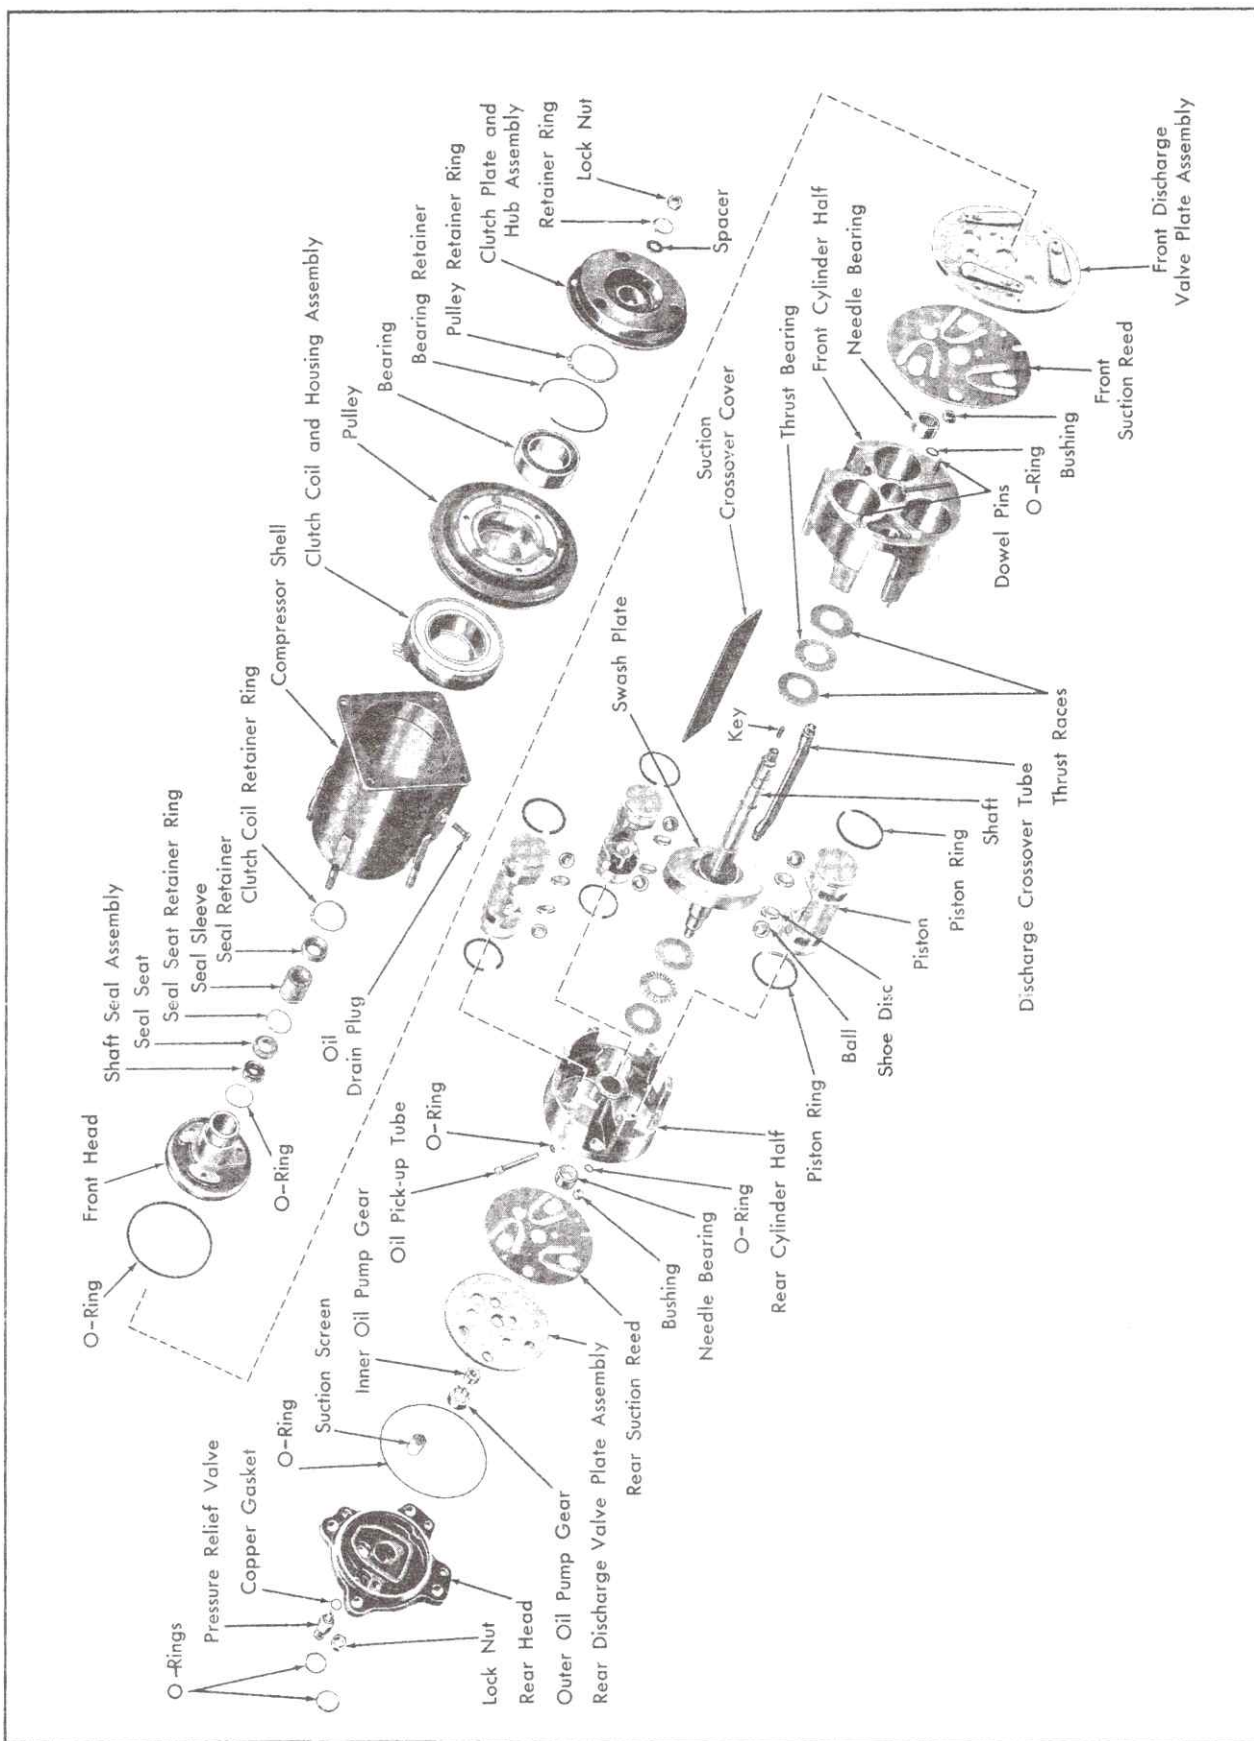

Fig. 1-28 Compressor Disassembled
When servicing the compressor, remove only the necessary components that preliminary diagnosis indicates are in need of service. Refer to Fig. 1-28 for information relative to parts nomenclature and location.
4. Place Spacer, J-9480-2, on hub, Fig. 1-28. Insert end of Clutch Plate and Hub Assembly Installer, J-9480, through spacer and thread tool onto end of shaft.